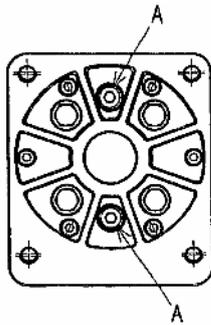

Fig. 1
2. Remove the nylon nuts (40) to remove the foot plate (33).
3. Remove 2 bolts (marked "A") out of 8 bolts on the back of foot block (refer to Fig.1).
2. Remove the nylon nuts (45) to remove the foot assembly (36).
3. Remove the bolts (6 pieces of M8 hexagon socket head bolts and 4 pieces of M10 bolts) other than 2 hexagon socket head bolts (marked "A") to remove the foot block (30) and the protection pipe assembly (20) (refer to Fig.1).